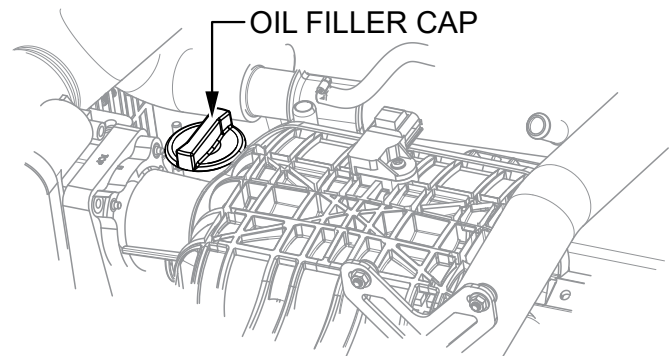

Figure 59. Oil Filler Cap
5. If the oil is below the lower mark on the dipstick, remove the oil filler cap (Figure 59) and add engine oil up to the upper mark on the dipstick. Refer to Table 6 for recommended oil viscosity.